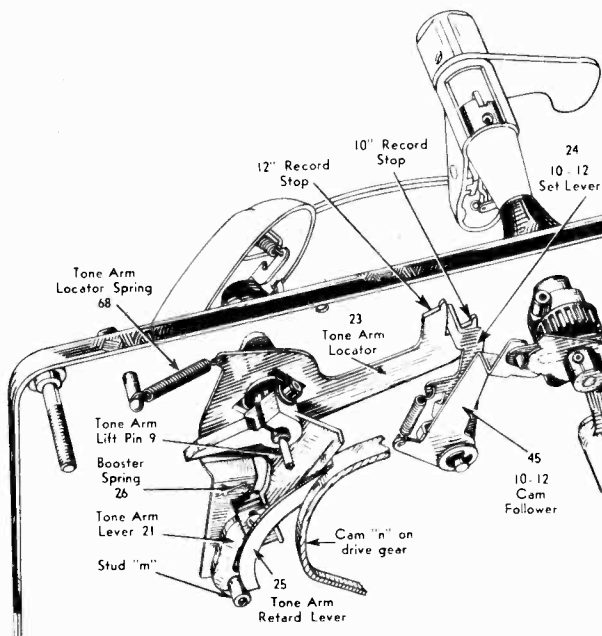
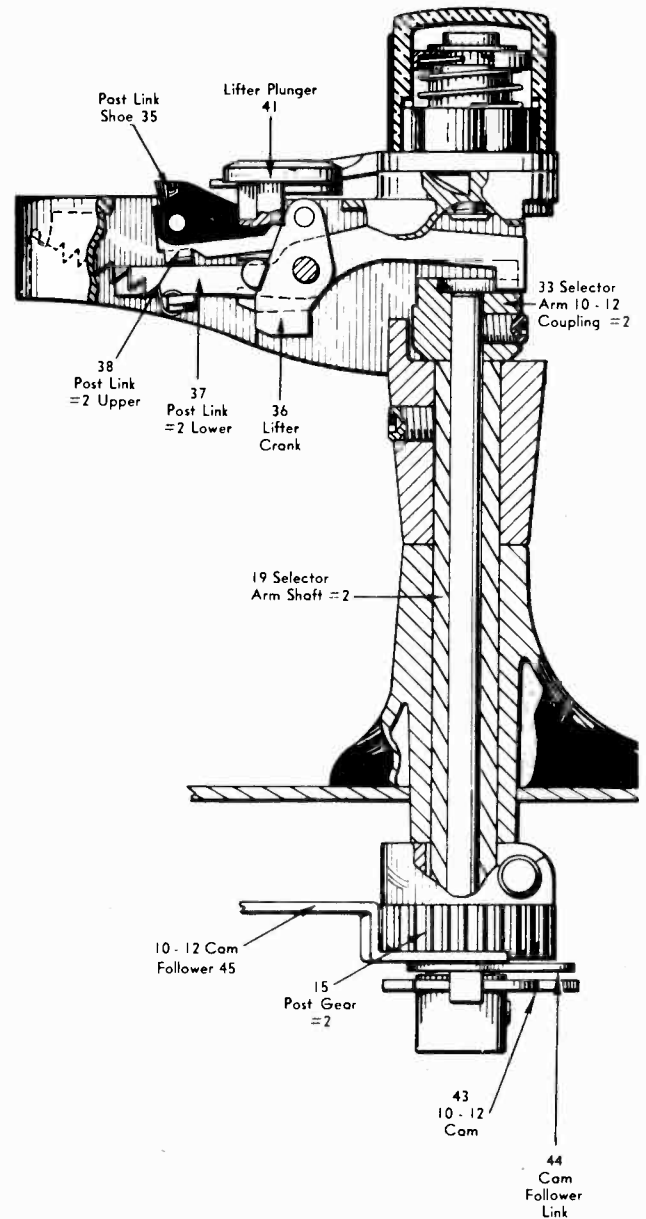

FIG. 8. CUTAWAY—BOTTOM VIEW
FIG. 12. CUTAWAY—SIDE VIEW
- Cam surface "j" moves the tone arm latch lever assembly (22) so as to unlatch the tone arm lever (21) at point "k". Thereafter, the stud "m" on the tone arm lever follows the receding cam surface "n", which is part of the drive gear; this is shown in Figure 8.
- Spring pressure from tone arm locator (23) moves the tone arm lever (21) and the tone arm in toward the record.
The presence of a 10" or 12" record on the selector arms determines the point at which the tone arm locator (23) stops in contact with the 10-12 set lever (24). Fig. 8 shows 10" and 12" record stops. (See page 10 Fig. 12 for further description.)
- The tone arm retard lever (25) contacts stud "m" and holds it in position during the time of lowering the needle on the record. (See page 18 on retard lever.)
- Tone arm lift pin (9) follows vertical cam on drive gear and lowers tone arm to the record. After the needle has touched the record, the booster spring (26) exerts a slight pressure, causing the needle to enter the starting groove. (See page 19 on booster spring action.)
Figure 12 shows the cutaway view of the selector arm with the post link shoe and the lifter plunger in the normal unloaded position. These parts must operate freely and return to the normal position after the post link shoe has either been depressed (as in the case of the 12" record) or has been pushed back (as in the case of the 10" record). Any tendency to stick or bind in either position will cause incorrect operation of the changer.
The engagement of the 10-12 set lever, with the tone arm locator, determines the indexing of the tone arm. This engagement must be such that the hook on the tone arm locator prevents manual changing of the setting. All parts above must return freely. (See Fig. 8.)